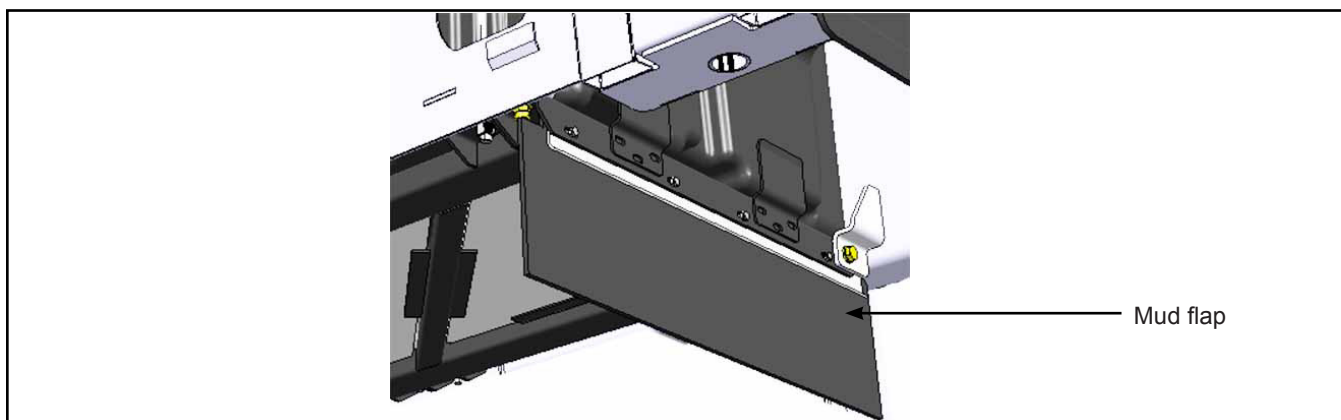

Figure 12 - Mud Flap Installation
- 1.19. Transfer the mud flap onto the new cradle. See Figure 12.